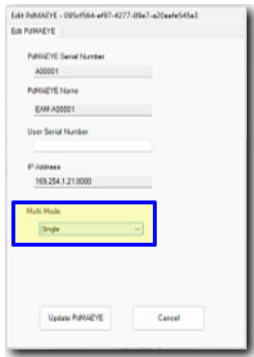

Figure 31: Edit PdMAEYE Window
2. The Edit PdMAEYE Window opens. The PdMAEYE Serial Number, PdMAEYE Name, IP Address, and Multi Mode is populated as shown in Figure 31.